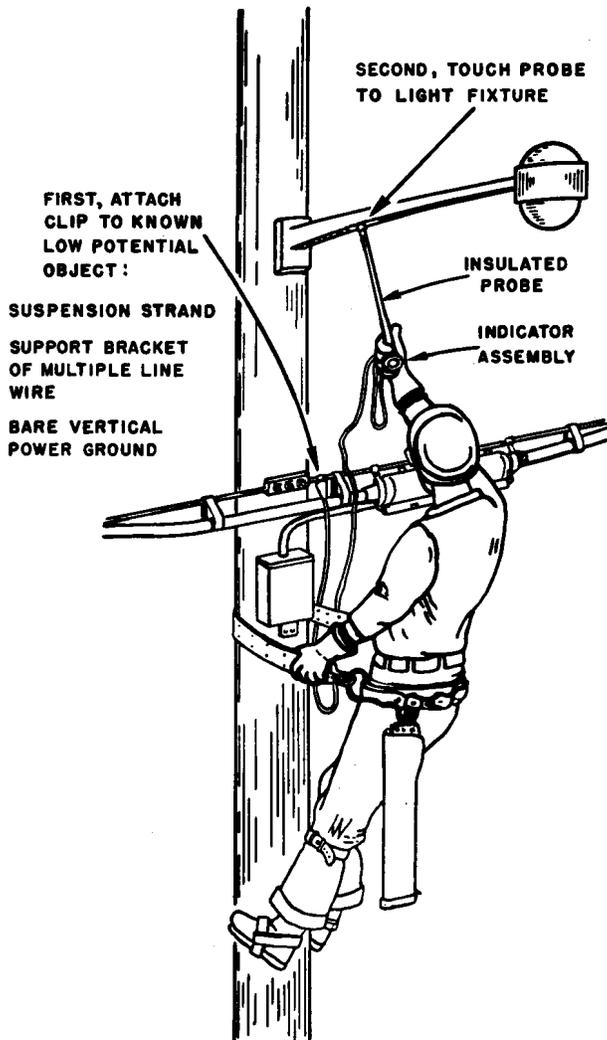

Fig. 11—Testing Street Light Fixture
- (c) Attach the insulated clip of the B-Voltage Tester to the cable suspension strand, support bracket of multiple line wire, or a bare (tested) vertical power ground wire. Using the "gunsight method," touch the toothed metal disk of the voltage tester probe firmly against the fixture while observing the open end of the indicator assembly (Fig. 11).